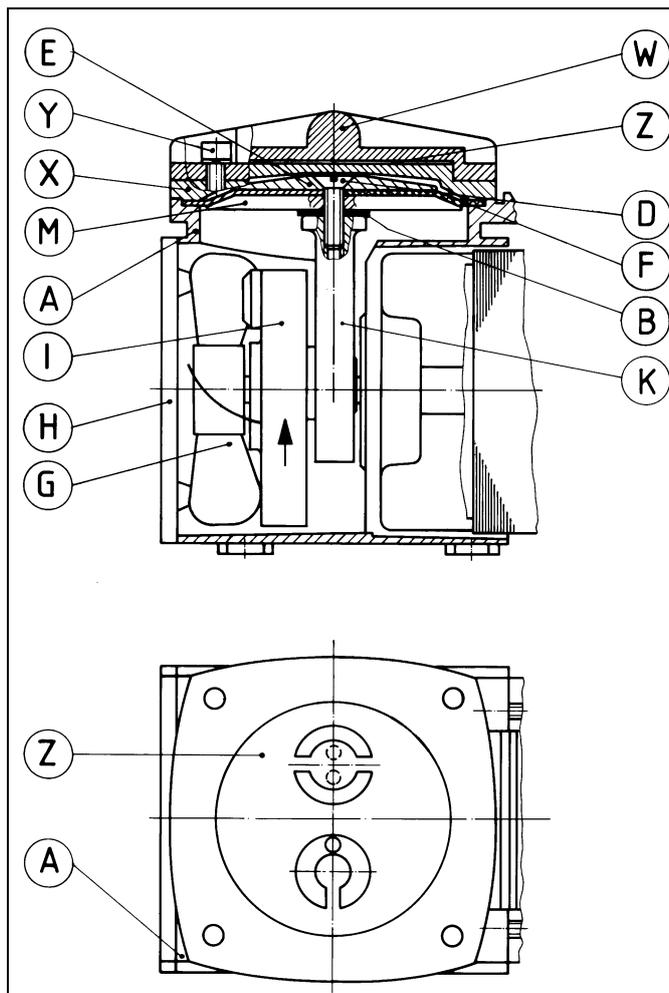

Fig. 3: Cross section N 023_ANE
Change the diaphragm and valve plate in the following sequence (see fig. 3):
10. Place the new valve plate (**Z**) on the intermediate plate (**X**) as shown in figure 3. Fit the head (**W**), according to the markings.
*according fig. 3